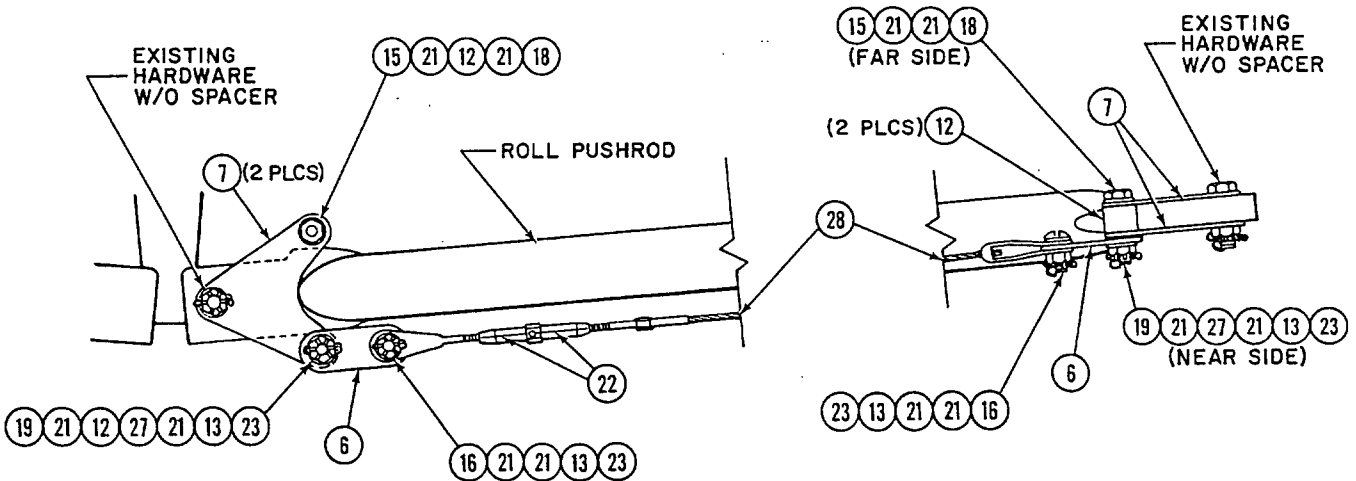

FIGURE 6-A CONTROL ROD CLAMP INSTALLATION
- F. Install the KS 178 Roll Servo in the Roll Servo Hanger (047-8302-02) (Item 10) as shown in Figure 6-B. Clamp the hanger/servo assembly, the Roll Servo Clip (047-7293-01) (Item 8) and the Roll Servo Support (047-7294-01) (Item 9) together and in place in the airplane as shown in Figure 6-B. With the turnbuckle inboard, wrap the Roll Bridle Cable (200-3500-00) (Item 28) around the servo capstan as shown in Figure 6-C and attach the ends to the previously installed Pitch Links as shown in Figure 6-A using one Clevis Bolt (089-6419-02) (Item 16), two Washers (089-8227-09) (Item 21) and one Castellated Nut (089-2334-02) (Item 13) with Cotter Pin (090-0324-01) (Item 23) at each end.